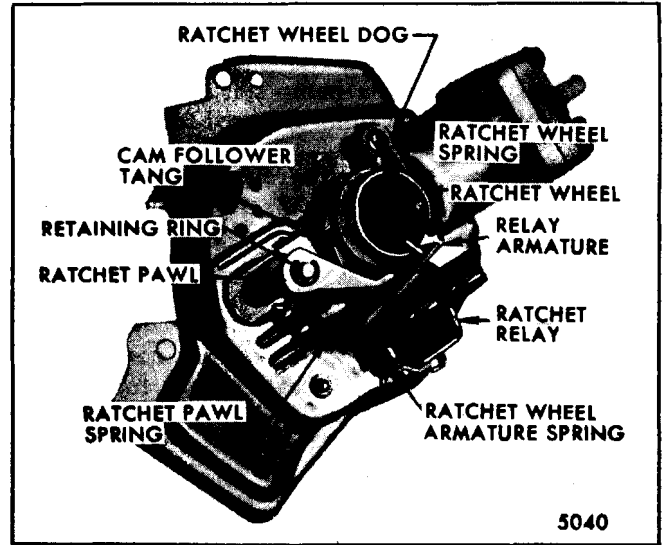

Fig. 2-77-Pump Assembly
4. Remove ratchet relay armature spring, ratchet pawl spring and remove ratchet relay armature (Fig. 2-77).